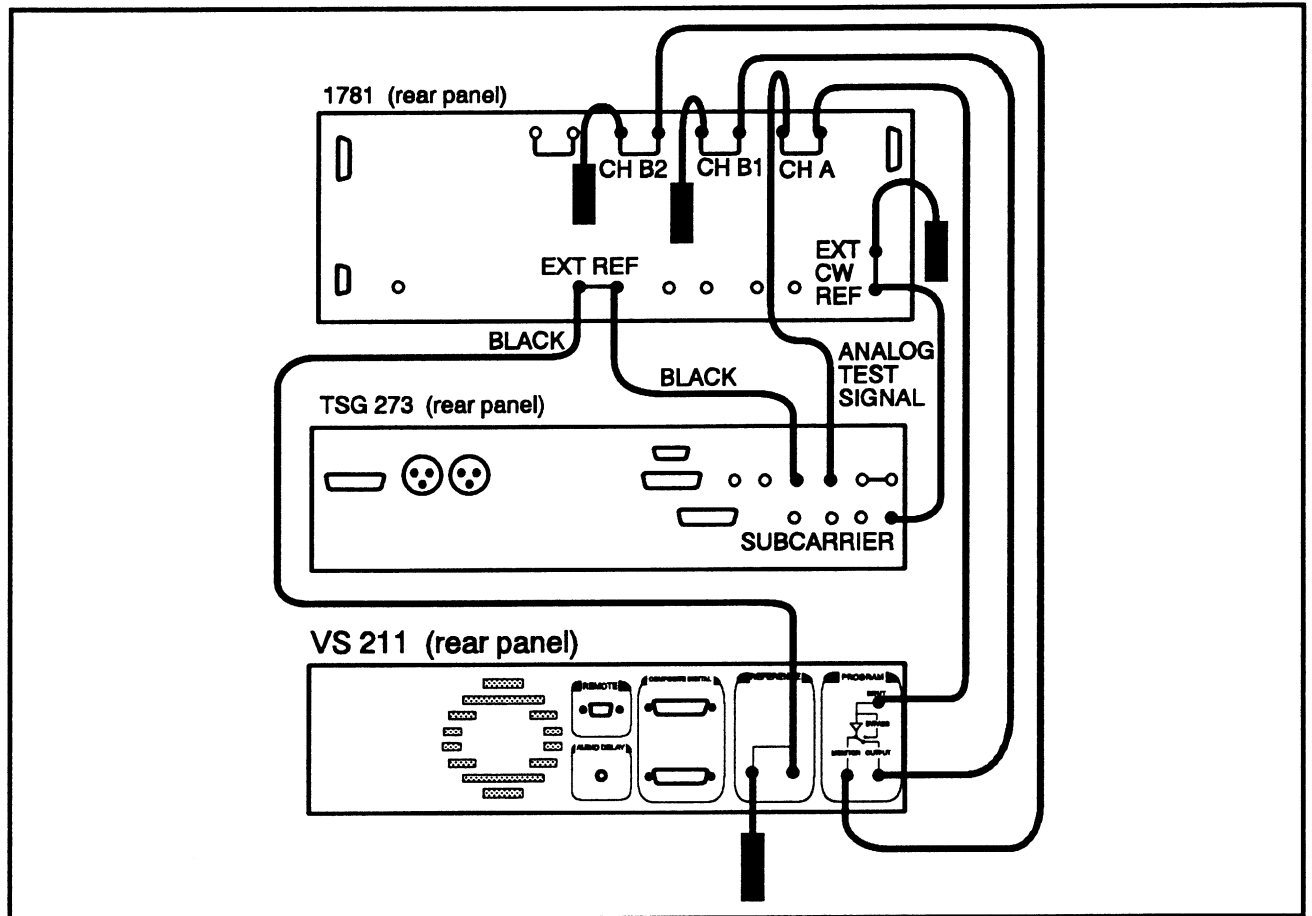

Fig. 4-9.
- a. Connect the test equipment as shown in Fig. 4-9.
- a. Connect the test equipment as shown in Fig. 4-9, except use the Modulated Pedestal as the PROGRAM INPUT signal.
- a. Connect the equipment as shown in Fig. 4-9.